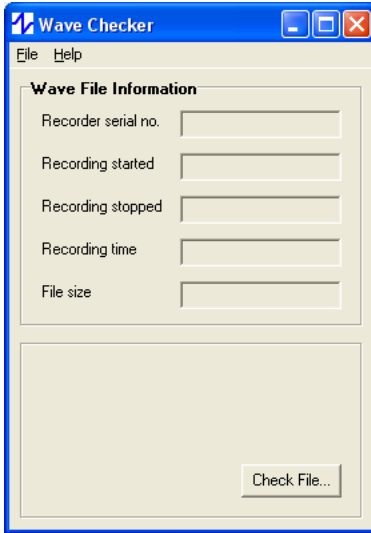

Fig. 1. The Wave Checker dialog box.
1. Double-click the **Wave Checker.exe** file. The **Wave Checker** dialog box (Fig. 1.) displays.